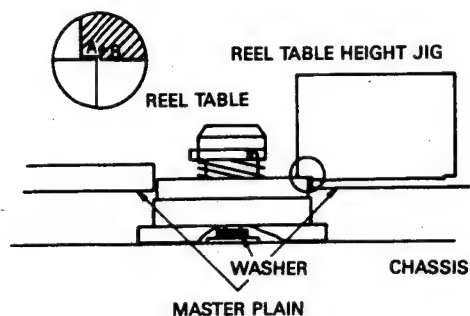

Fig.1
1. Follow the procedures for removing the panels. (See Figs. 1 to 2)
1. Remove the top and bottom cover. (See Figs. 1, 2)
1. Follow the procedures for removing the panels. (See Figs. 1 to 3)
The height of the supply and take-up turntables should be the same,  $+0.2/-0.2$ mm. Turntable heights are adjusted by changing plain washer stack under each turntable. Check turntable heights by installing the Master Plain. Set the reel disk height jig in place and check the height of the supply and take up turntables. (See Fig. 1) The size of washer is 0.5mm (3.2 mm ID). This washer should be used to achieve equal reference heights for both turntables.
For proper height point "A" should slide over the reel disk and point "B" should not. (Fig. 1)